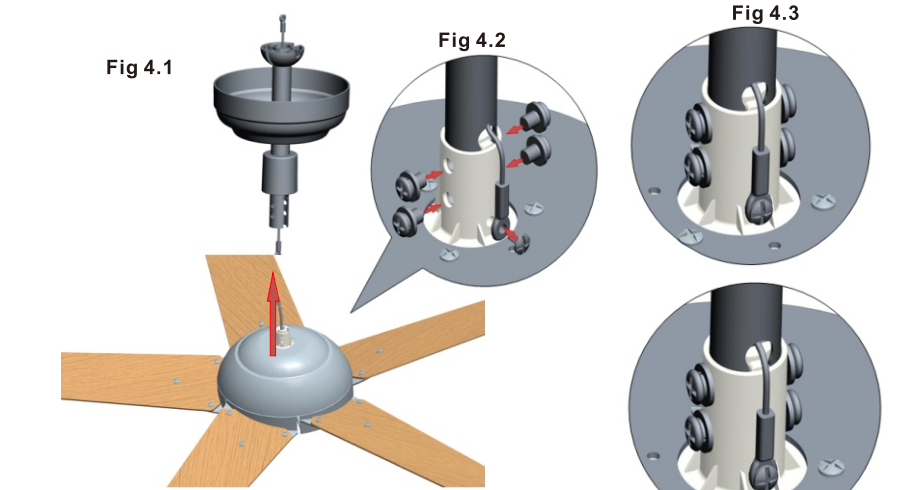

Fig 4.4
- Pass the power cord of the motor hub through the downrod as shown in the Fig 4.1, connect the notched end of the Downrod with the plastic hanger as shown in the Fig 4.2, and fix the safety rope on the motor shaft with screws. Using the M6X12 screws lock the lifting head, the downrod, and the motor shaft. The Fig 4.3 shows that after the screw is locked, the Fig 4.4 covers the screws with the wiring cover.